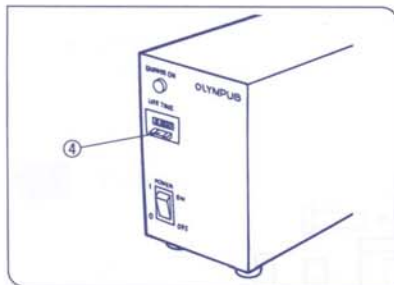

Fig. 16
1. To reset the burner life time counter to "000.0", press the center portion of the reset button ④ on the power supply unit's front panel. (Figs. 16,17)